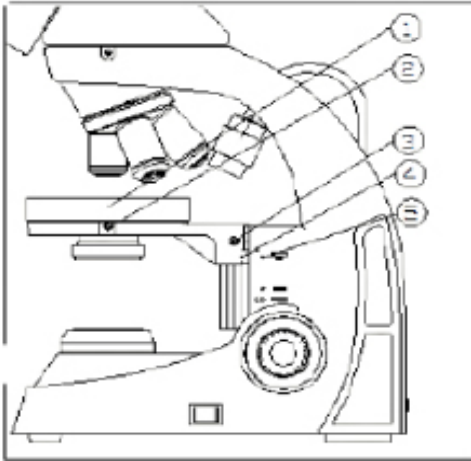

Fig. 22
Put the round stage (1) into the holder, use a hexagonal wrench lock the screw (2). Adjust coarse focusing wheel to lift the holder to the top position, loose the screw (3) to move the holder, and then lock the screw (3) when the mark 4 and 5 are horizontally aligned. (Fig.22).